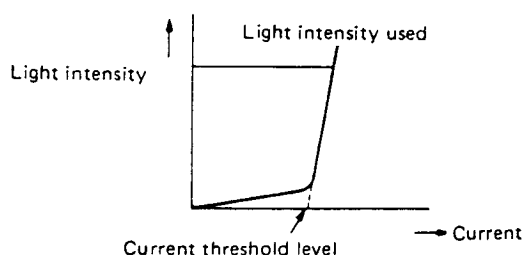

Fig. 18
(1) Semiconductor laser (Fig. 18)
The current – light intensity characteristic became sharp abruptly after passing the threshold value as shown in Fig. 18. The threshold current value is a little different in each laser unit. Therefore, when setting the laser beam amount after replacing the unit mechanism, be sure to turn the control variable resistor R905 fully counterclockwise to set it off once, and then increase the level to the specified value.